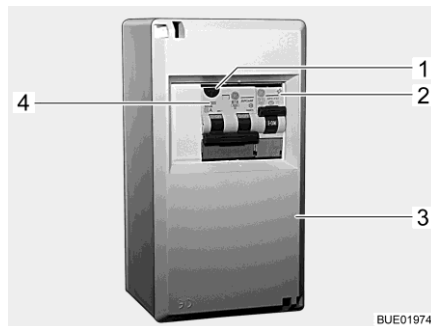
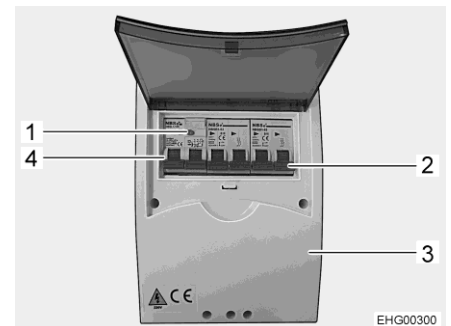

Fig. 144 230 V fuse box
Fig. 145 230 V fuse box (variant)
A combined fault current protection switch / safety cut-out (Fig. 144,4 or Fig. 145,4) in the fuse box (Fig. 144,3 or Fig. 145,3) protects the complete vehicle from fault current (0.03 A).
For vehicles with special equipment (e.g. air conditioning unit) an additional safety cut-out (10 A) (Fig. 144,2 or Fig. 145,2) secures the device.
- When the vehicle is connected to the 230 V power supply, press the test button (Fig. 144,1 or Fig. 145,1). The fault current protection switch must trip.